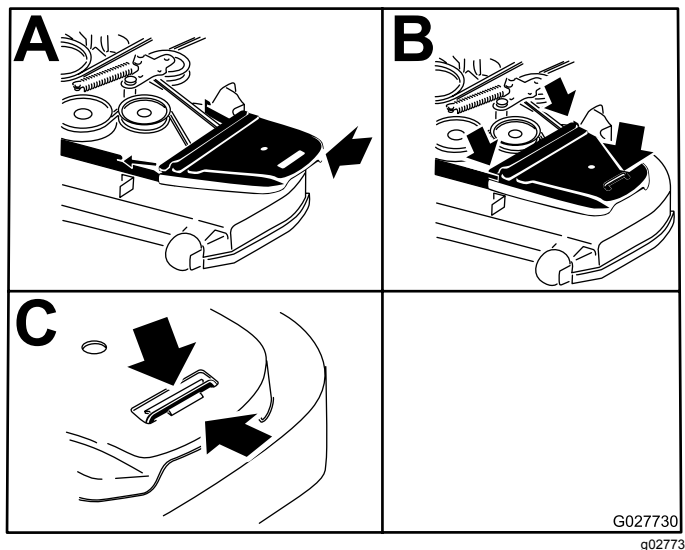

Figure 99
9. Rotate and ensure the belt-guide tab hits against the pivot hub (Figure 99).
12. Install the belt covers (Figure 99).